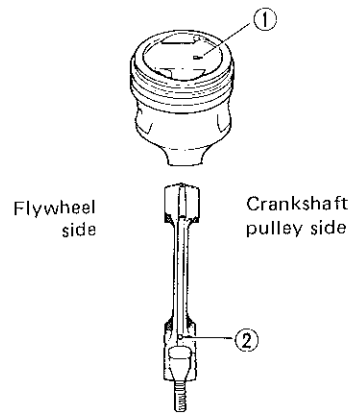

Fig. 4-108
POSITION OF PISTON RELATIVE TO CONNECTING ROD: The arrow ① on the crown points to crankshaft pulley side, and the oil hole ② comes on inlet port side. See Fig. 4-108.